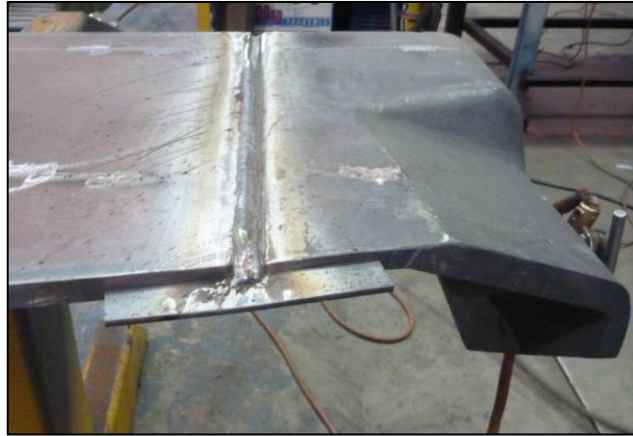

Figure 16 Underside weld
2.9.2. Ensure back grinding is conducted after each weld until all of the weldment area is filled. Refer Figure 16.